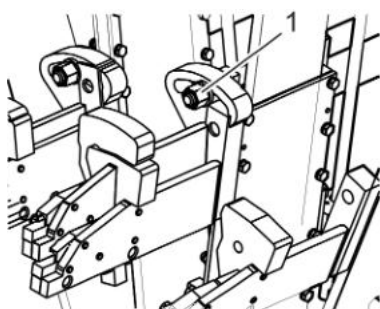

Fig. 42: Electrode carrier slide
3. Loosen the hexagon head screws (Fig. 42/1), remove the electrode carrier slide and the wire guide tube.